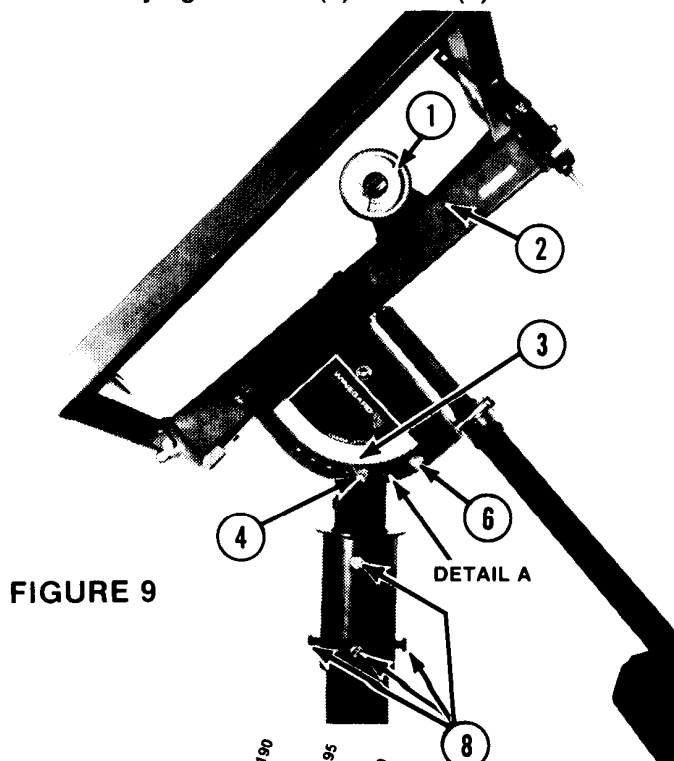

FIGURE 9
STEP 1. Place Protractor (1) squarely on Pivot Beam (2) as shown in Figure 9 and set Polar Axis Angle as described below.
STEP 5. Loosen azimuth locking bolts (8) (Figure 9) enough to allow antenna to rotate. Rotate antenna and mount slowly so Pivot Beam passes thru a line with true North. Receiver should be in SCAN mode. When picture flashes on TV screen, remove receiver from scan mode and rotate antenna for best picture. **Tighten azimuth locking bolts to 40 Ft./Lbs.**
If you make an adjustment to the Polar Axis Angle fine adjustment when moving between the Eastern and Western satellite, the pivot beam is not aligned with true North. To correct this situation, aim the antenna at the most Western satellite and adjust both the polar jack and the fine adjustment for the Polar Axis Angle for best picture and highest meter reading on receiver. Make a reference mark between the latitude head and the mount column (Detail A) (Figure 11). Turn the antenna to the most Eastern satellite and again adjust for best picture. Make another reference mark on the mount column opposite the previous one on latitude head (Detail B). Move the Polar Axis Angle fine adjustment until the mark on latitude head is half-way between the two reference marks on the mount column (Detail C). **Tighten bolt (4) (see Figure 9) going thru fine adjust, latitude head and mount column.** Loosen azimuth locking bolts enough to rotate antenna. Carefully rotate antenna until best picture is restored on TV and tighten locking bolts. Tighten all bolts securely and check tracking alignment.